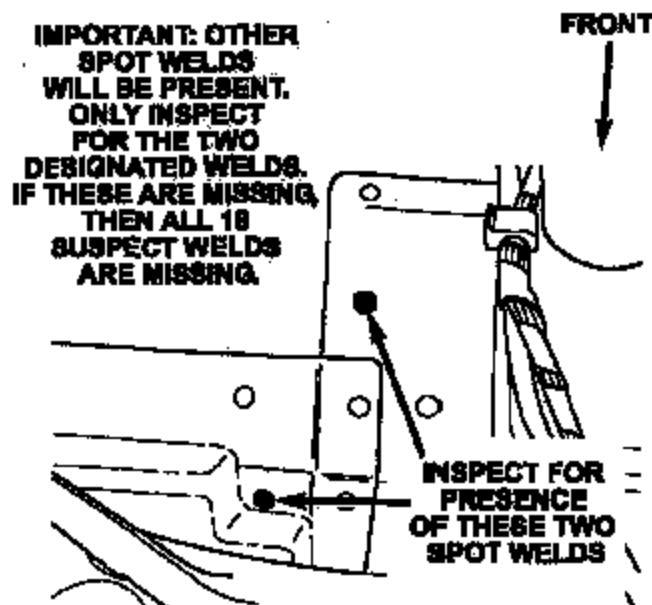

Figure 2 – Driver's Side Shown
7. Inspect the floorpan reinforcement for the presence of the two spot welds shown in Figure 2.